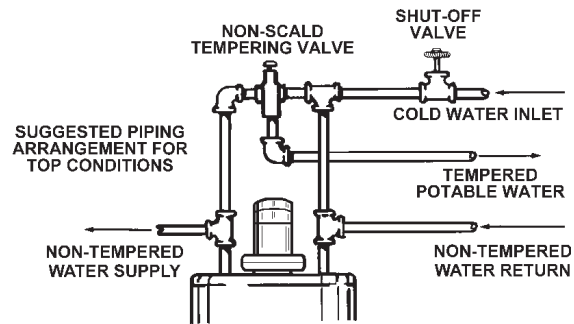

FIGURE 2
4. When the system requires water for space heating at temperatures higher than required for domestic water purposes, a tempering valve must be installed, see Figure 2 for suggested piping arrangement.